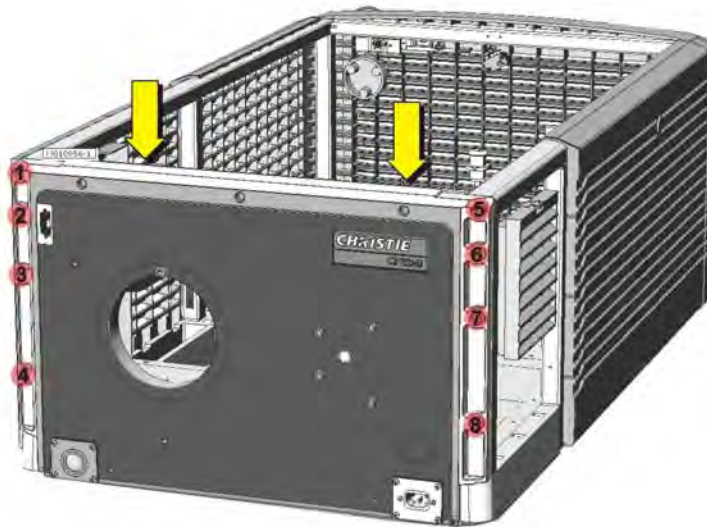

Figure 5-25 Remove Front Projector Plate
6. Remove the front plate of the projector by removing the 10 M6 screws (eight along front and two inside the projector housing) and loosening the two thumbscrews on the front bracket (behind the front plate). (**Figure 5-25**)